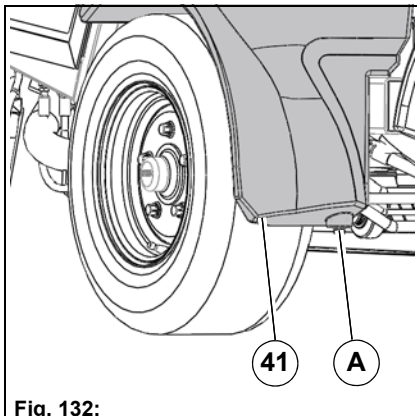

Fig. 132:
2. Unscrew the drain screws **Fig. 132-A** on both sides of the fresh water tank **Fig. 132-41** and empty the tank.